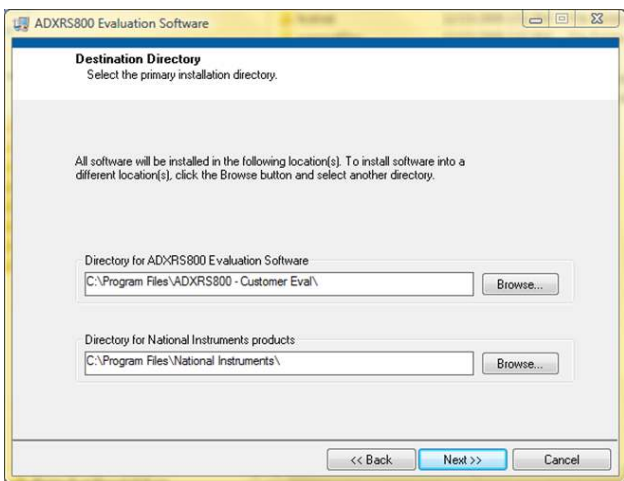

Figure 12. Destination Directory Selection
1. Select the destination directory. The installer autopopulates the names of the directories in which to store the software GUI and required National Instruments products (see Figure 12). You can change these directories; however, most installations can proceed with the default values.